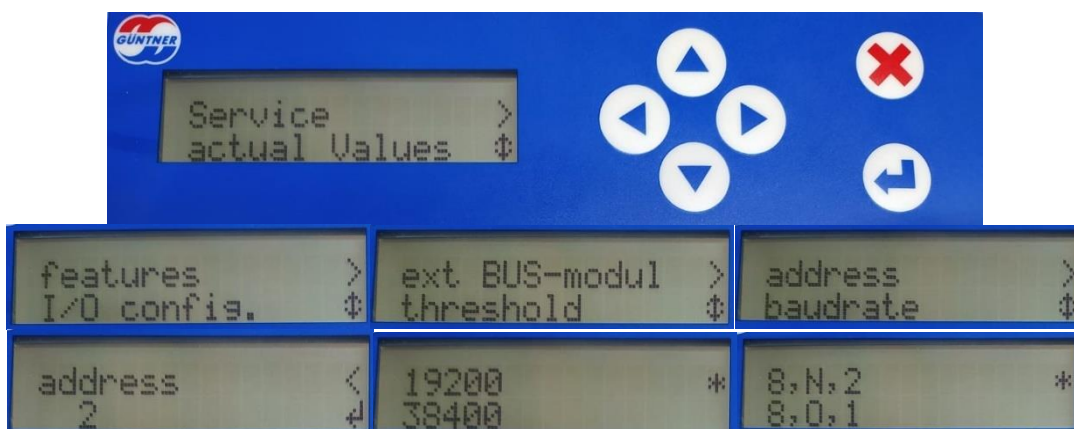

Figure 3: Modbus settings.
- At the GMM EC display, go to all settings made and write down or take a picture of the values used. For example, if the equipment has RTU modbus communication, go to 'Service' – 'features' – 'ext BUS-modul', as shown in Figure 3.